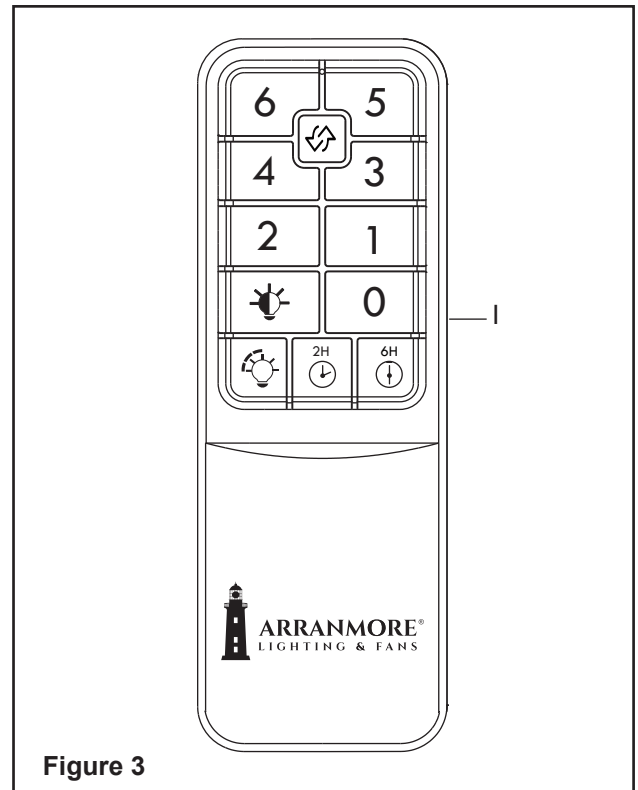

Figure 3
**3. 0 button:** Press and release the power button to turn the fan off. (Figure 3)